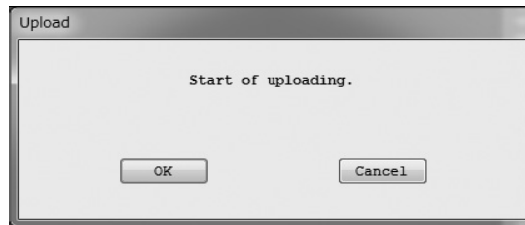
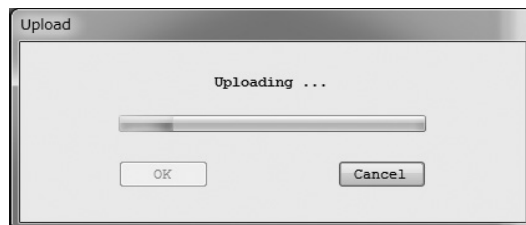

Fig.174
Fig.175
- ① Click the "File (F)" menu, and then select and click "Save File (S)" from the "Database (F)" drop-down list.
- ② A message box (Fig. 174) appears. Click "OK" to continue, or click "Cancel" to stop.
- ③ By clicking "OK" on the message box (Fig. 174), uploading of every parameter will begin (Fig. 175). Click "Cancel" to stop uploading.